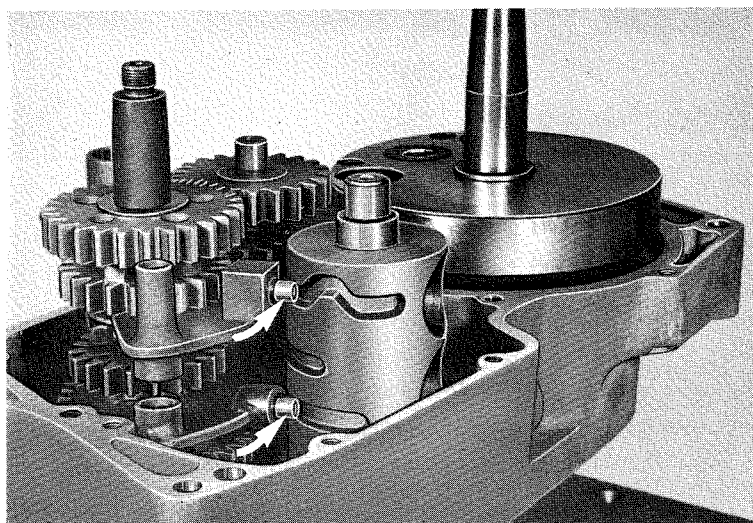

Fig. 21
21. Slide the rear shifting forks and pinions up so that the pins and rollers can be inserted into the upper and lower grooves of the shifting drum. See Fig. 21.